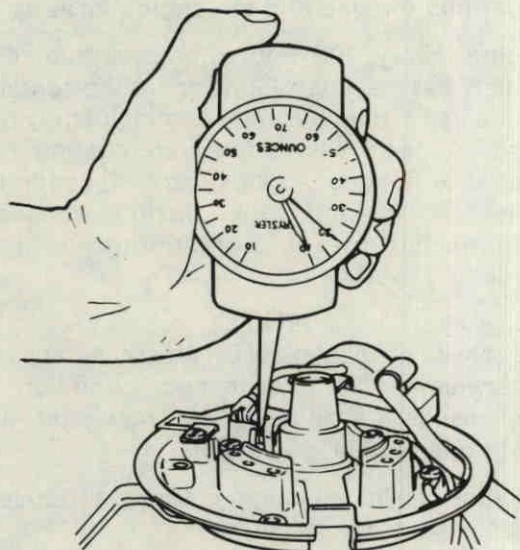

Figure 42. Checking Spring Tension.
4. Check breaker point spring tension. Tension must be 16 to 32 oz. measured at right angles to surface at center of contact, Figure 42. A breaker point with too little tension will bounce and cause ignition advance to vary and thus cause premature power head failure. A breaker point with too much tension will cause premature point follower wear which leads to poor performance.